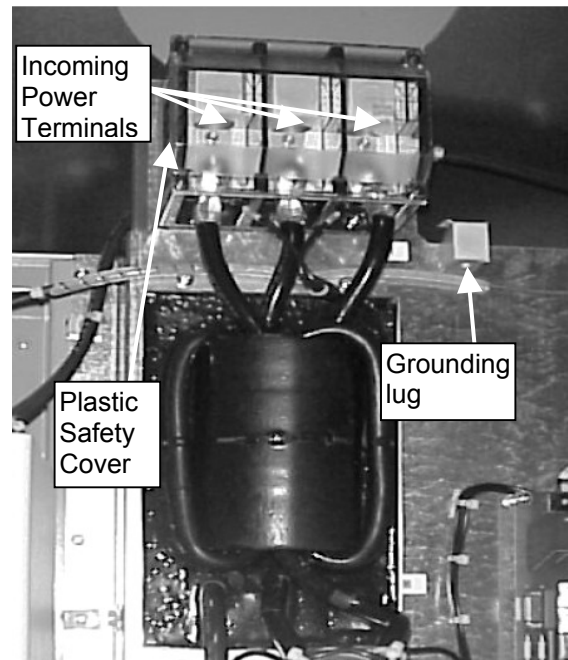

Figure 29: Power Terminals
- Finally, connect the incoming 3-phase power wires and PE building ground to the main power terminals at the top of the Line Side Converter enclosure. View Figure 29 for locations of terminals.